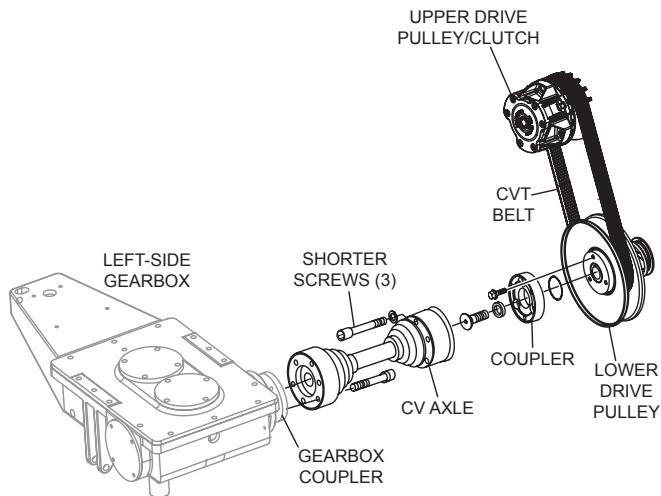

Figure 34. Remove Left-Side CV Axe
2. Disconnect the left-side CV axle from the left-side gearbox and the lower drive pulley coupler. See Figure 34.